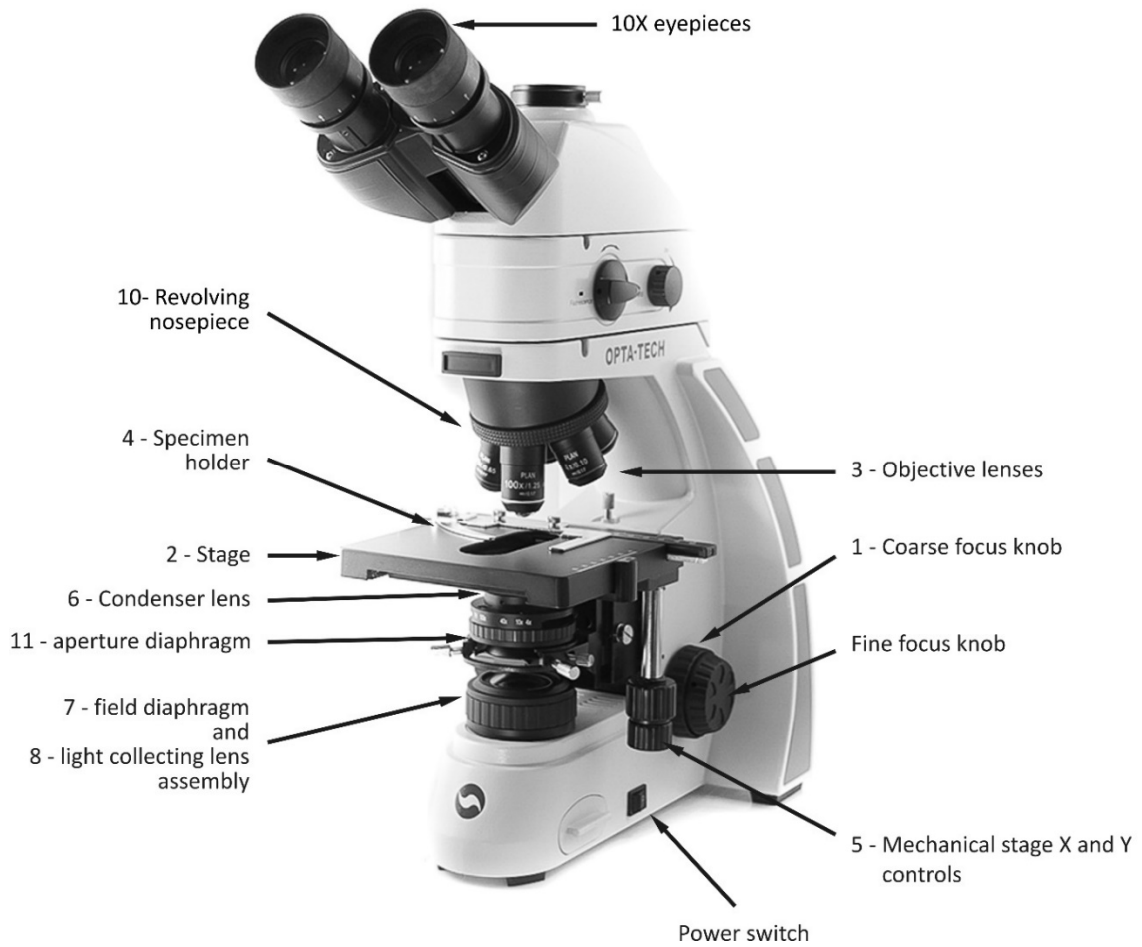

Fig. 1. Components of the microscope.
5. Rotate coarse focus knobs (see Fig. 1) in a direction that stage (2) moves “away” from the objective lenses (3) as far as possible and position the stage micrometer on the stage:
- swing movable finger on slide holder (4) outward, place the stage micrometer (cover slip facing up) on top of stage against fixed side of slide holder,
- using mechanical stage X and Y controls (5) move the stage micrometer until it is centered over the condenser lens (6).